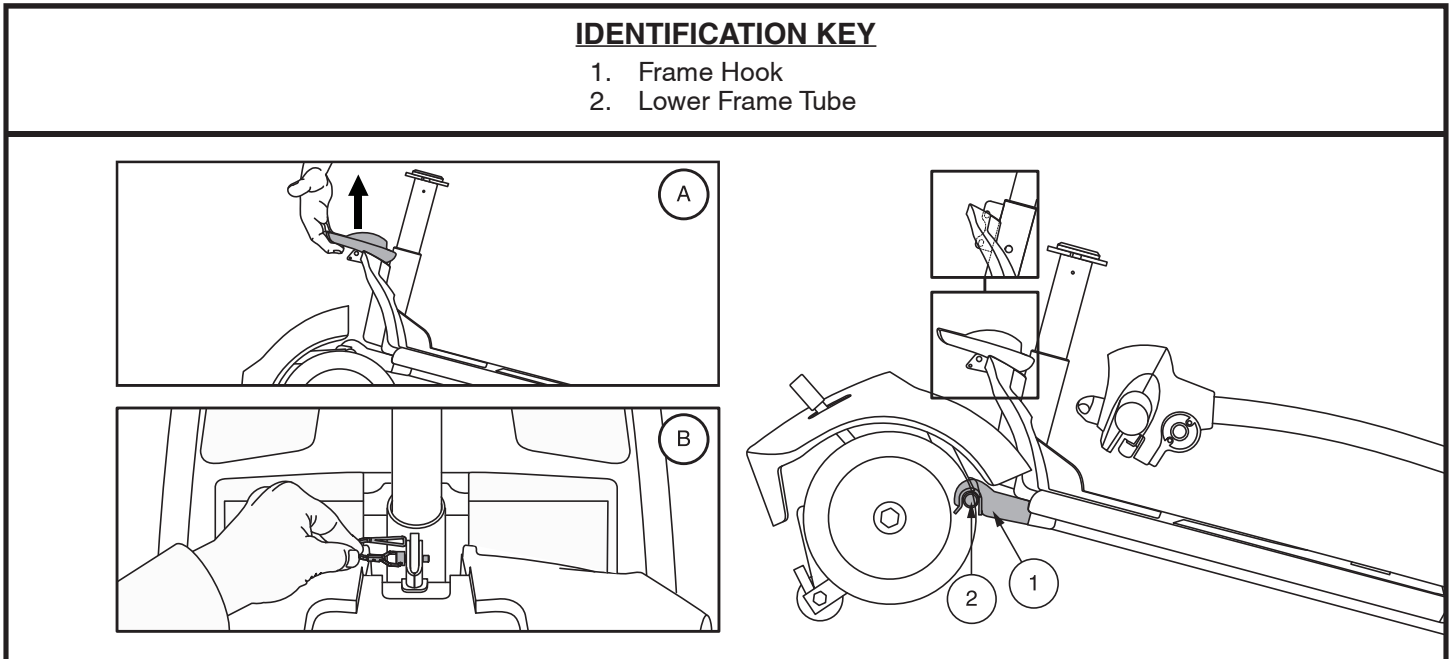

Figure 33. Frame Release Lever (Style A) and Frame Release Lock-up Pin (Style B)
4. Slowly separate the two sections of the Travel Scooter. **See figure 33.**
**NOTE:** Before attempting assembly, tilt the rear half of the Travel Scooter slightly back on the anti-tip wheels as shown in figure 33.
1. Use the frame release lever (or the seat post for models 29, 36, 336, 83, and 84 only) to lift the front section as you align the frame hooks of the front section with the lower frame tube of the rear section. **See figure 33.**
2. Once the frame hooks are over the lower frame tube, lower the front section and pivot the rear section simultaneously. This will engage the frame lock-up automatically for models AAP4, 39, 40, 44, 40LX, 40X, 44X, 40E, 402E, 44E, 442E, 44LX, 49, 50LX, 50LXLIT, 53, 53HD, 54, 54LX, 54LXLIT, 54HD, 66, 67, 73, 74, and Jazzy ZTS. For models 29, 36, 336, 83, and 84, you will also need to reinstall the frame lockup pin to complete the body assembly. **See figure 33.**